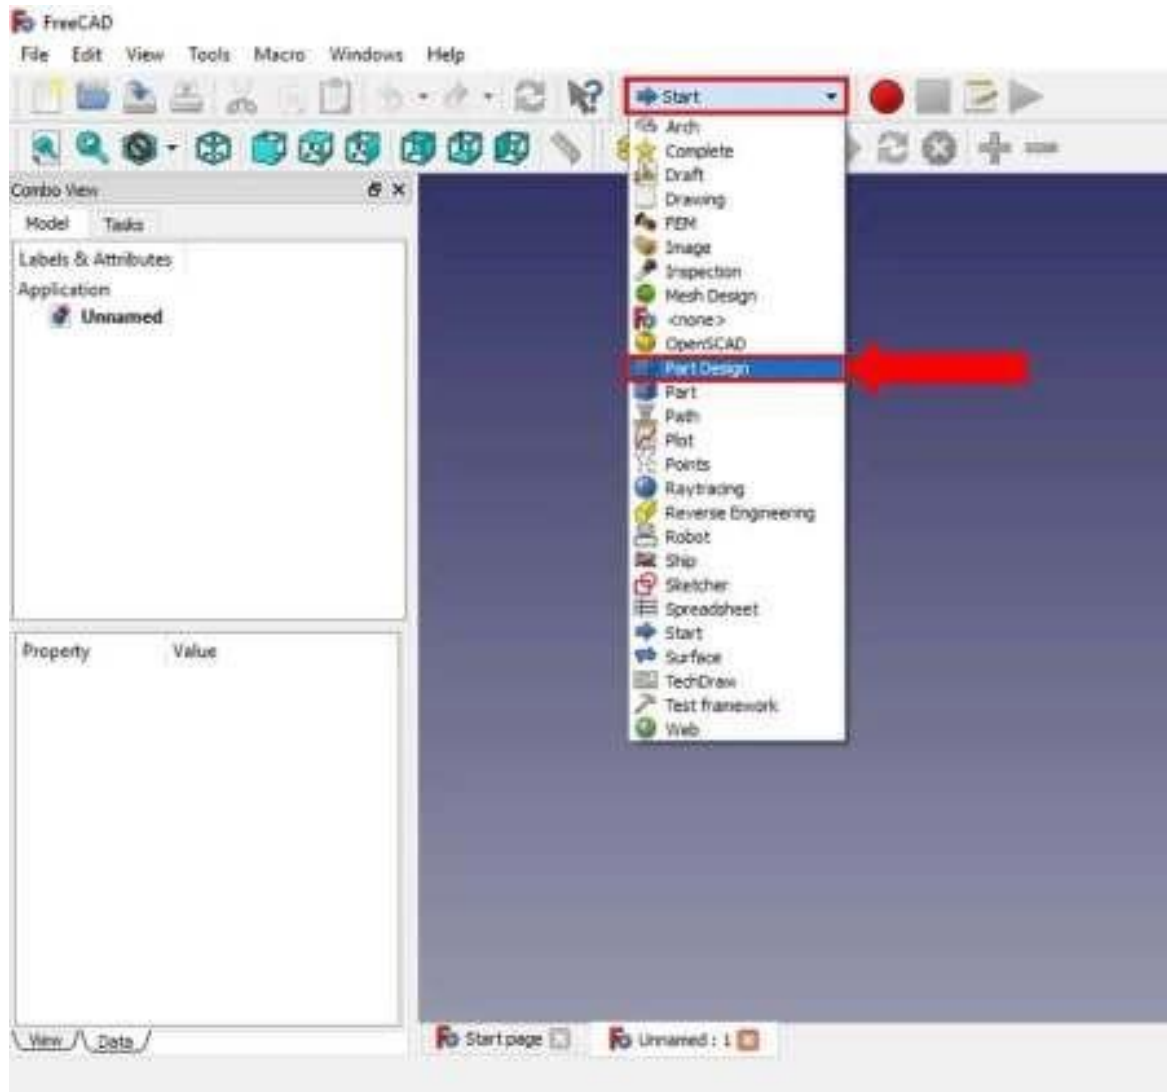

Figure 10 – Work with an option **Part Design**
1. Change the **Workbox** from **Start** to **Part Design**. This will activate the **Create Sketch** option in the **Task Slide** in the **Combo View** window (Figure 10).